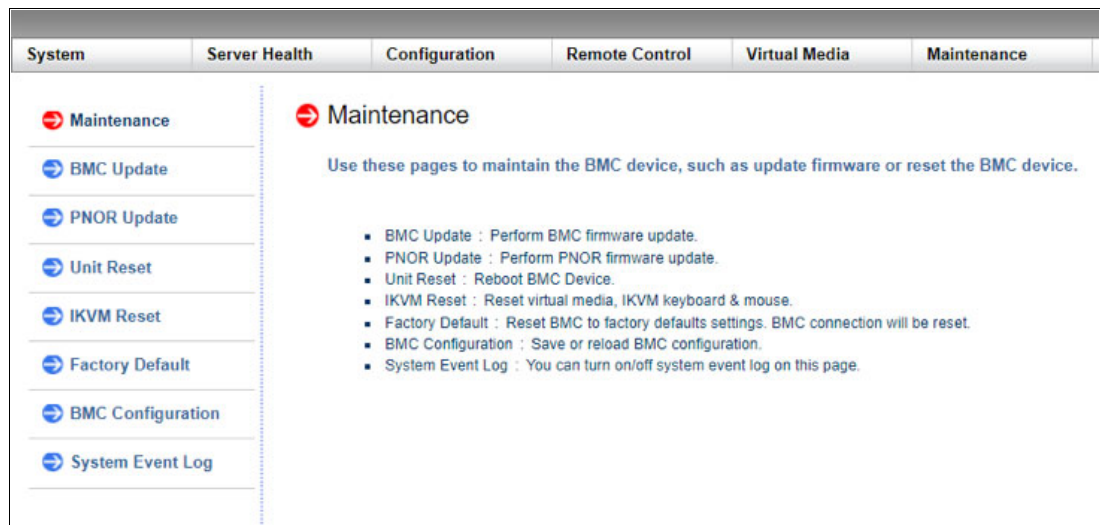

Figure 4-2 BMC Update window
2. From the Maintenance list on the BMC dashboard, select **BMC Update**, as shown in Figure 4-2.